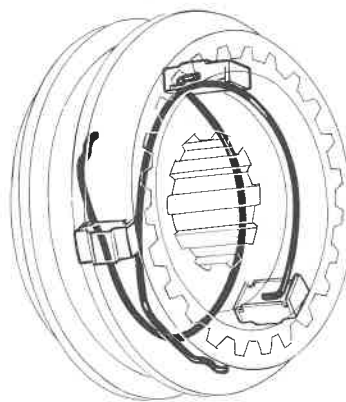
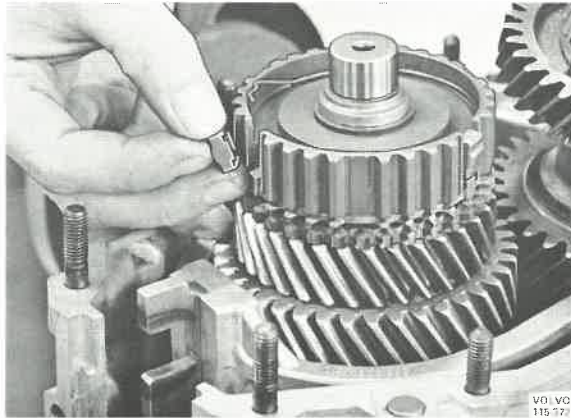

Fig. 43-109. Placing springs
Fig. 43-110. Fitting lock units
11. Place in position the spring for 3rd-4th synchronizing. Note that it should be placed with the resilient part anti-clockwise, Fig. 43-109. Grease the interlock units and fit them, Fig. 43-110. Fit the selector fork on 3rd-4th engaging sleeve and fit the sleeve on the hub.